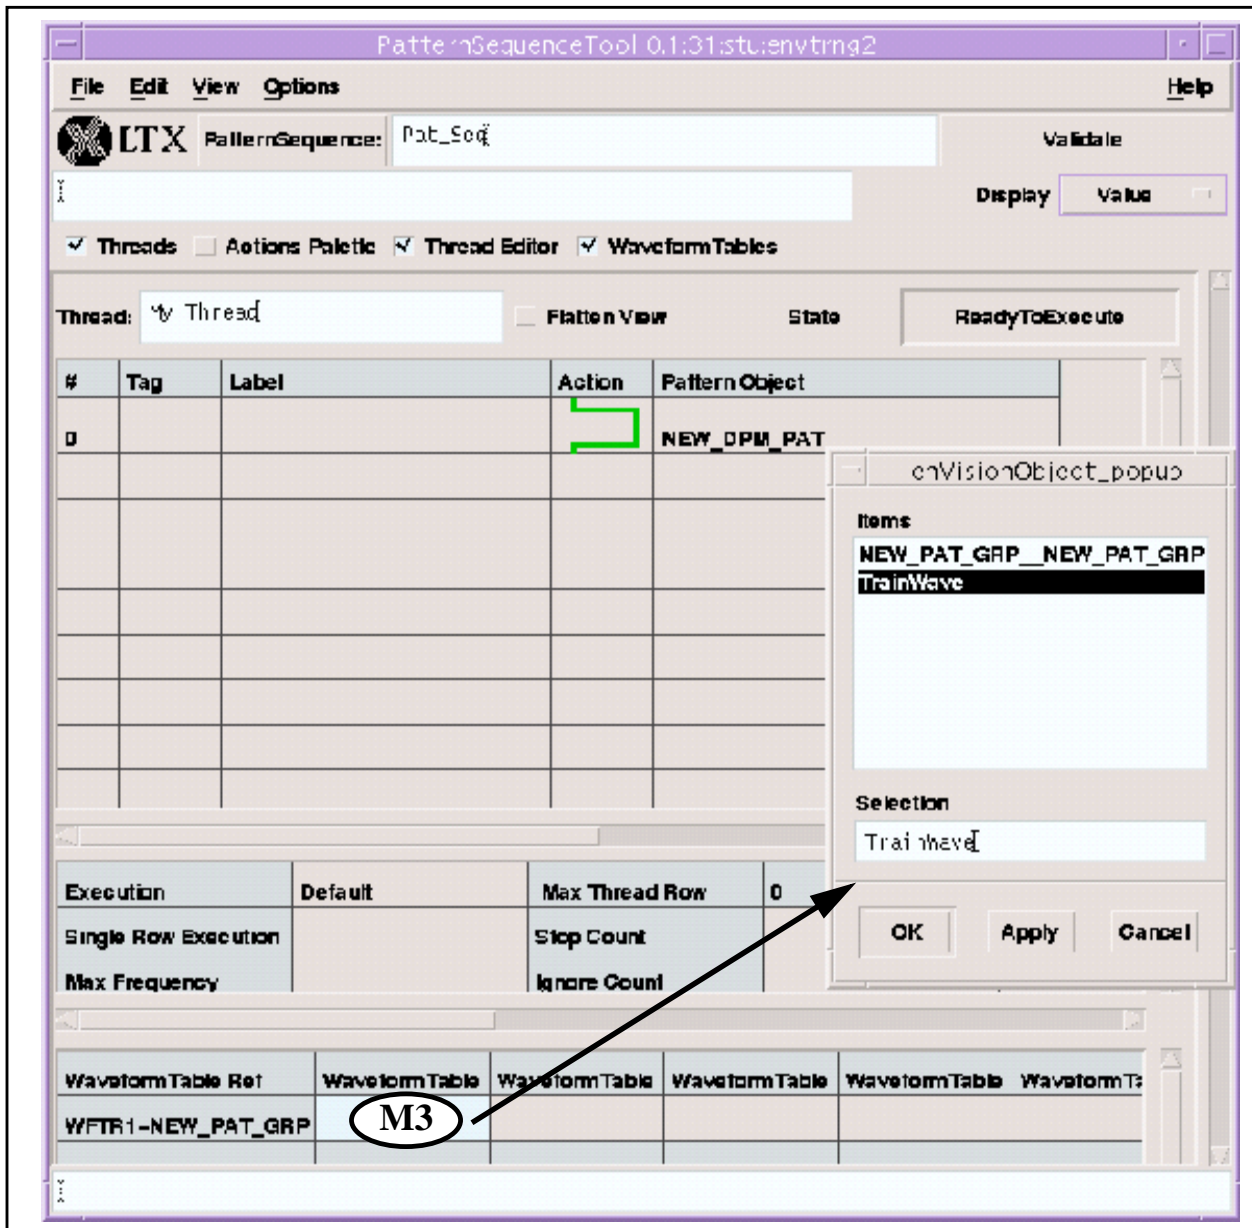

Figure 2.40: Waveform Object Attached to Zipper Table
3. Figure 2.40 shows the *Zipper Table* in the `PatternSequence` object: `Pat_Seq`.